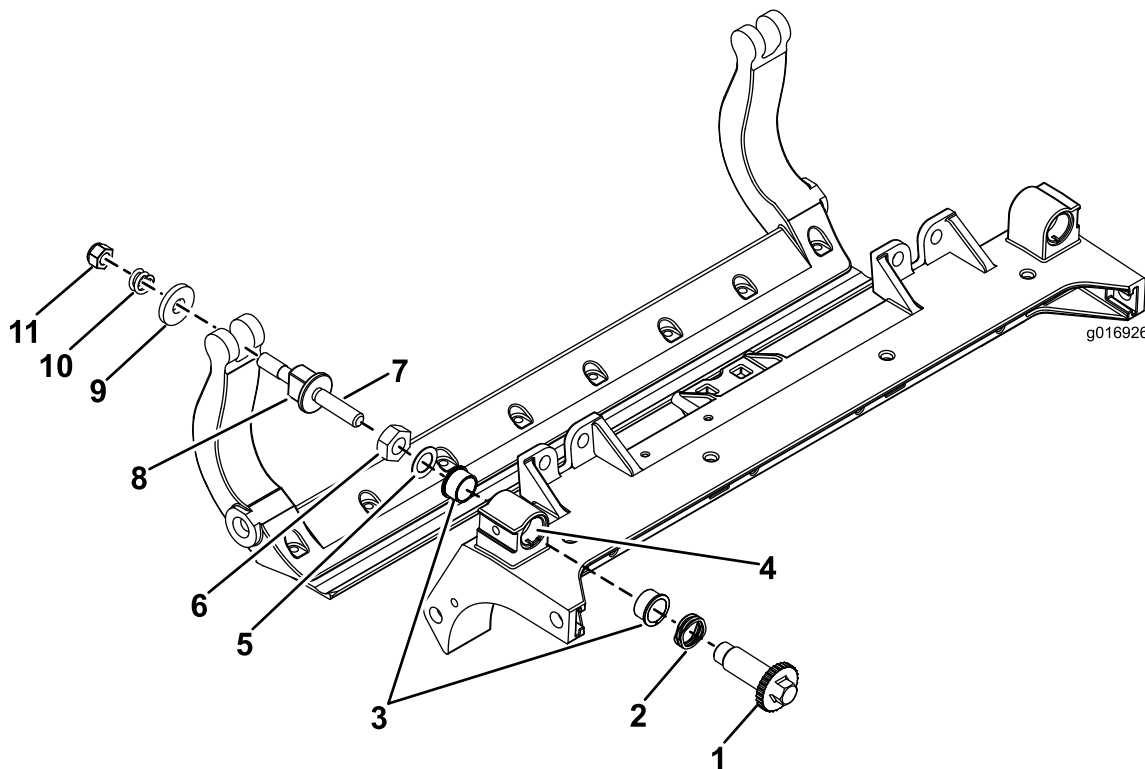

Figure 34
1. Remove all parts (refer to the *Installation Instructions* for the HD DPA Kit (Model No. 120-7230) and to Figure 34).
2. Apply anti-seize compound to the inside of the bushing area on the carrier frame of the cutting unit (Figure 34).
3. Align the keys on flange bushings to the slots in the frame and install the bushings (Figure 34).
4. Install a wave washer onto the adjuster shaft and slide the adjuster shaft into the flange bushings in the cutting unit frame (Figure 34).
5. Secure the adjuster shaft with a flat washer and lock nut (Figure 34). Torque the lock nut to 20 to 27 N-m (15 to 20 ft-lb).
Note: Position a nylon washer on each side of the side plate boss. Place a steel washer outside each of the nylon washers (Figure 34).